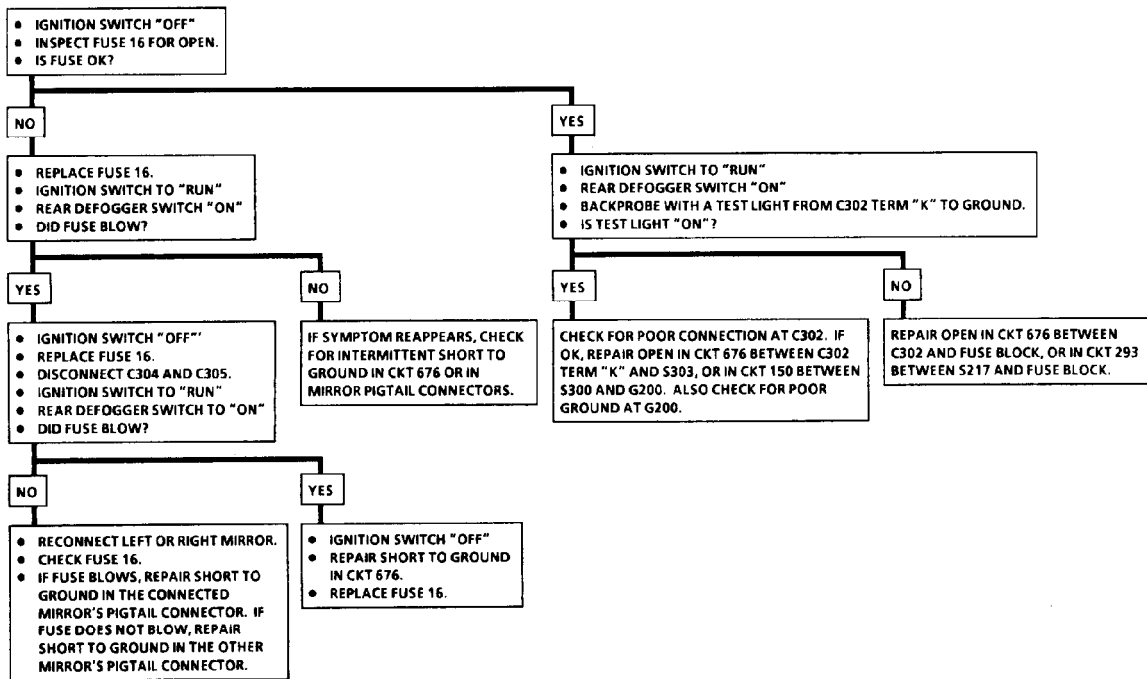
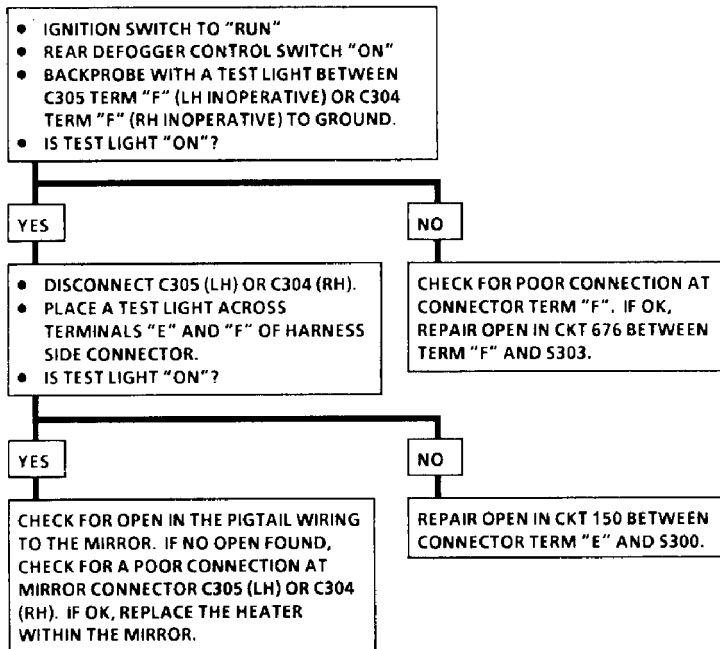

Fig. 4: "B" Body System Diagnosis (Chart 3 of 6)
Fig. 5: "B" Body System Diagnosis (Chart 4 of 6)
1) If rear defogger and mirror defoggers are inoperative, see Fig. 3. If both mirror defoggers are inoperative and rear defogger is okay, see Fig. 4.
2) If one mirror defogger is inoperative and other mirror defogger is okay or if rear defogger is inoperative and mirror defoggers are okay, see Figs. 5 and 6. If indicator is inoperative but rear defogger and mirror defoggers are okay, replace rear defogger switch.
1) If both mirror defoggers are inoperative but rear defogger is okay, see Fig. 4. If one mirror defogger is inoperative and other mirror defogger is operative or if rear defogger is inoperative and mirror defoggers are okay, see Figs. 5 and 6. If rear defogger and mirror defoggers (if equipped) are inoperative, see Fig. 7.